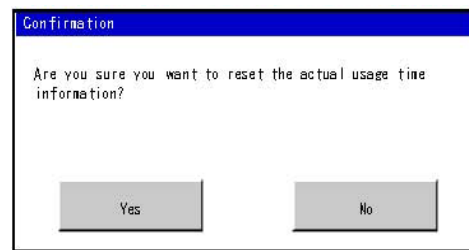

**Figure 3-O**
- An input dialog box appears (Figure 3-O). The default Usage Time Limit is 40 hours.